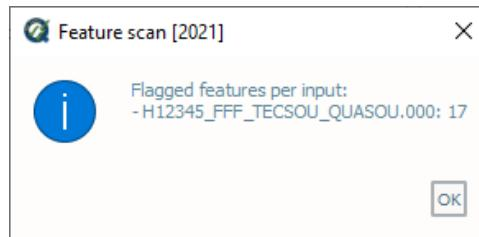

Fig. 2.43: The output message at the end of **Feature scan** execution.
- After computing, the output window opens automatically, the results are shown(Fig. 2.43).